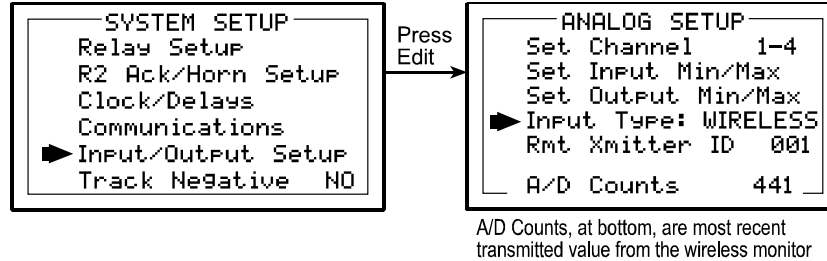

Figure 5.3
Use the **WIRELESS** setting shown at right of Figure 5.3 ONLY FOR COMMUNICATION TO ST-48/RF WIRELESS TRANSCIEVERS.
**Wireless MODBUS** allows one or many ST-90s to function as wireless modbus *slaves* by selecting **wireless MODBUS** in the **COMM SETUP** menu (Figure 5.3). These wireless networks require a modbus *master* such as a DCS, HMI, or another RC Systems Controller equipped with our compatible radio modem. As in all R. C. Systems wireless networks, one transceiver must be designated as Server and all others as Clients. No special configuration is required by the *master* or *slave* since this is a standard modbus network. However, radios must have the same **Hop Channel** and **System ID** settings to communicate.